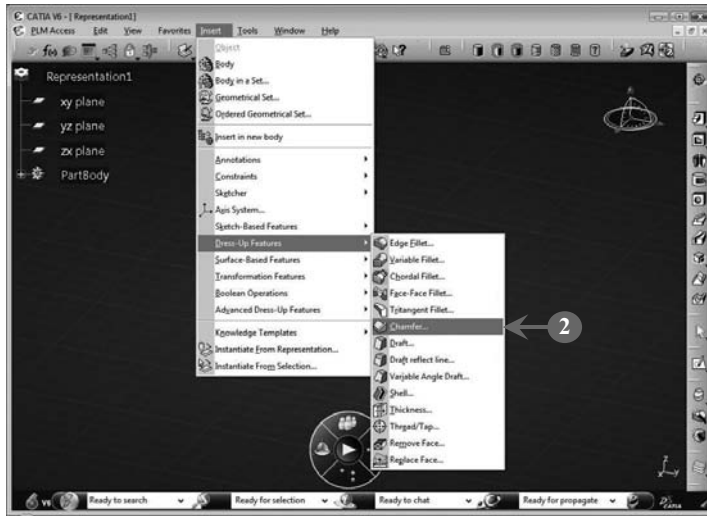

FIGURE 3.70
2. Select **Insert > Dress-Up Features > Chamfer**, as shown in **Figure 3.70**: